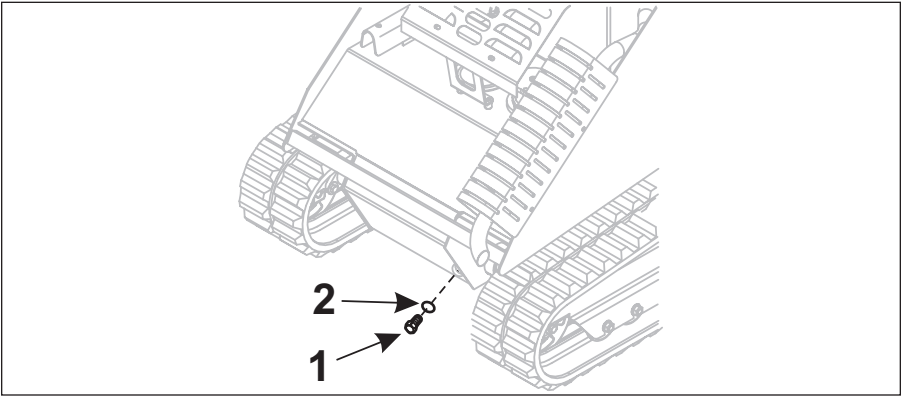

Figure 4-21 Hydraulic Tank Drain Plug
- b. Remove the hydraulic tank drain plug (Item 1, **Figure 4-21**) and drain all hydraulic fluid from the machine.
**NOTE:** Make sure to inspect the O-ring (Item 2, **Figure 4-21**) on the drain plug. Replace the O-ring if any signs of damage are noted.